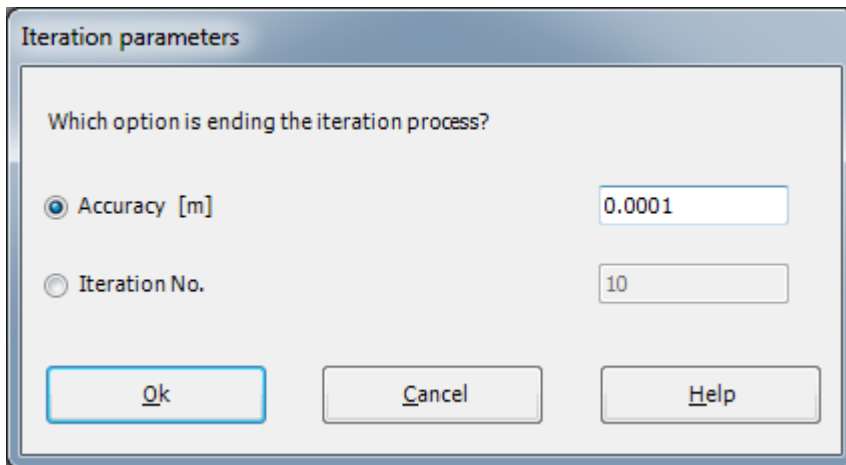

Figure 1.31 "Iteration parameters" option box
- Choose "Computation of all" command from "Solver" Tab Window. The following "Iteration parameters" option box in Figure 1.31 appears